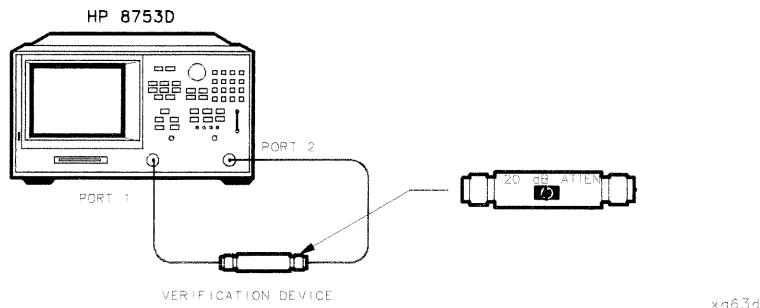

Figure 2-4. Connections for the 20 dB Verification Device
32. At the prompt, connect the 20 dB attenuator (supplied in the verification kit) as shown in Figure 2-4.